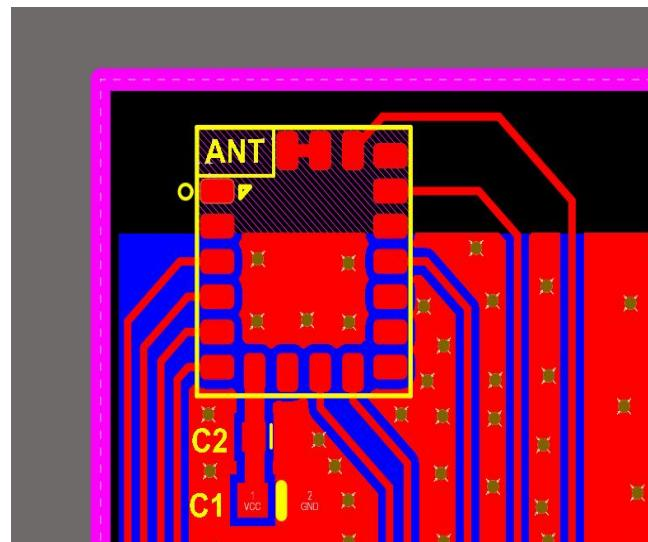

Figure 2-10 Internal antenna circuit design
**1.Using internal high-performance antennas.**Simply short connect PIN19 with PIN20 to enable the internal high-performance antenna, as shown in Figure 2-10 below, with an open communication distance of 5 to 10 meters.